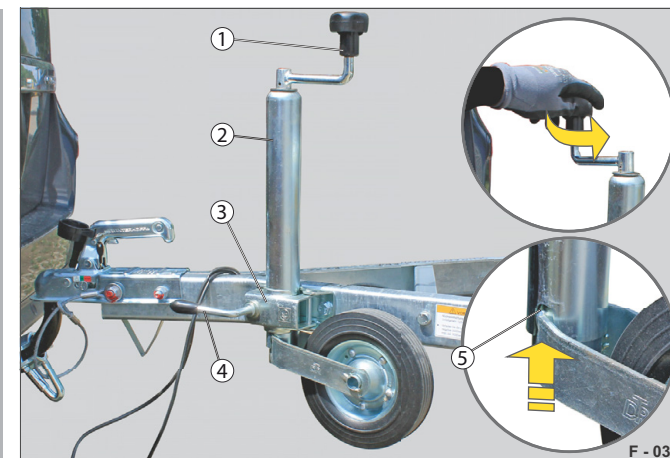

Fig. 12 Position for driving
- Crank the jockey wheel all the way up so that the hub of the rotation lock (Fig. 12 /5) is inserted into the groove on the cylinder (Fig. 12 /2).
- Unscrew the T-handle (Fig. 12 /4) and pull the cylinder up.
- Check that the clamp (Fig. 12 /3) is tightly clamping the cylinder.